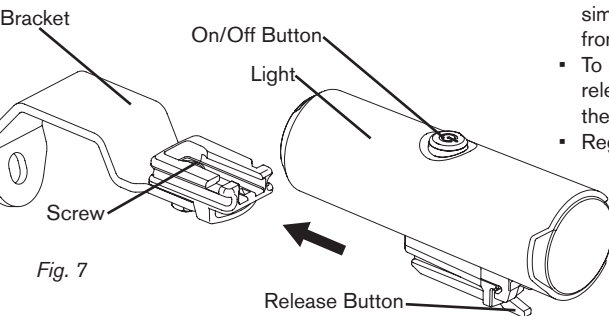

Fig. 7
- Once the lamp bracket is installed, fit the lamp by simply sliding into the plastic housing (fig. 7) on the front of the bracket until the light 'clicks' into place
- Regularly check that the fixing screw (fig. 7) on the bracket is tight
To turn the light On or Off press and hold the button (fig. 7). The On/Off button is also used to operate the light and select the different lighting modes. When you turn the light on it will be in the mode last used. If the button lights up during use the battery power is 20% or less and the light should be charged as soon as possible.